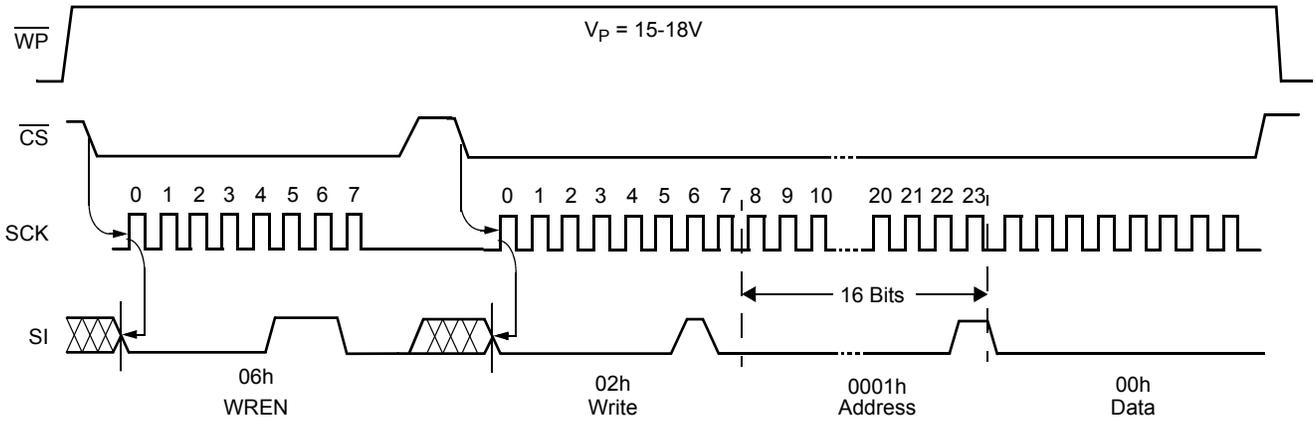

FIGURE 1. SET  $V_{TRIP}$  LEVEL SEQUENCE ( $V_{CC} = \text{DESIRED } V_{TRIP} \text{ VALUE}$ )
0000 0001	<p>Write status instruction—followed by:  Block lock/WDT byte: (See Figure 1)            000WD1 WD2000 ---&gt;no block lock: 00h-00h---&gt;none of the array            000WD1 WD2001 ---&gt;block lock Q1: 0000h-00FFh---&gt;lower quadrant (Q1)            000WD1 WD2010 ---&gt;block lock Q2: 0100h-01FFh---&gt;Q2            000WD1 WD2011 ---&gt;block lock Q3: 0200h-02FFh---&gt;Q3            000WD1 WD2100 ---&gt;block lock Q4: 0300h-03FFh---&gt;upper quadrant (Q4)            000WD1 WD2101 ---&gt;block lock H1: 0000h-01FFh---&gt;lower half of the array (H1)            000WD1 WD2110 ---&gt;block lock P0: 0000h-000Fh---&gt;lower page (P0)            000WD1 WD2111 ---&gt;block lock Pn: 03F0h-03FFh---&gt;upper page (PN)</p>